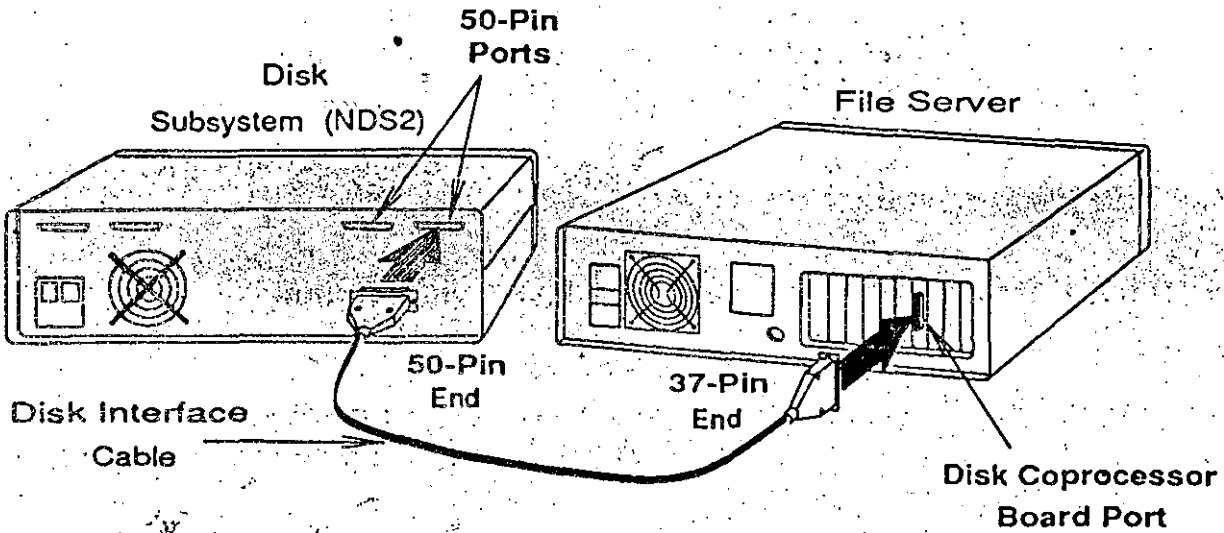

Figure 5.4
- 1) Attach the 37-pin end of the 37-to-50-pin disk interface cable to the disk coprocessor board's 37-pin port on the back of the file server's rear panel, as shown in Figure 5.4 on the next page. (If you have an earlier version of the disk coprocessor board that has a 50-pin disk interface port, use a 50-to-50-pin cable.) Use a screwdriver to fasten the cable connector to the port.